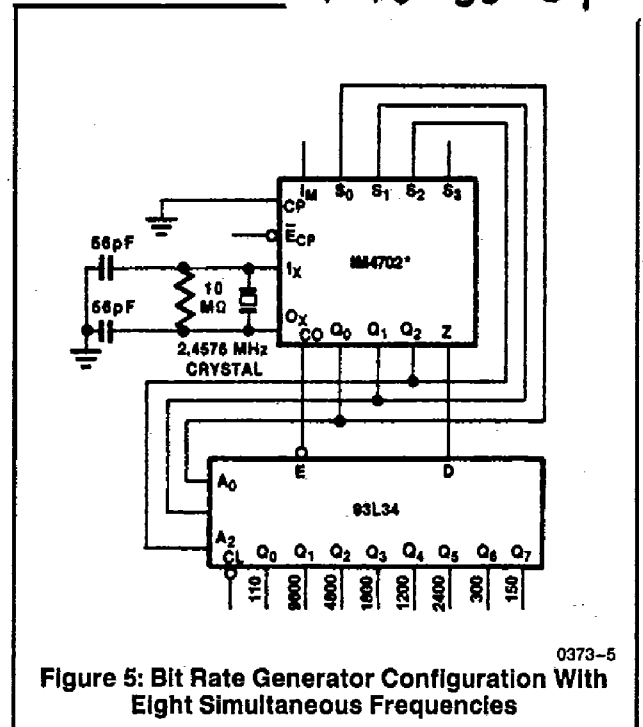

Figure 5: Bit Rate Generator Configuration With Eight Simultaneous Frequencies
Figure 5 shows a simple scheme that generates eight bit rates on eight output lines, using one IM4702/12 and one 93L34 Bit Addressable Latch. This and the following applications take advantage of the built-in scan counter (prescaler) outputs. As shown in the block diagram, these outputs ( $Q_0$  to  $Q_2$ ) go through a complete sequence of eight states for every half-period of the highest output frequency (9600 Baud). Feeding these Scan Counter Outputs back to the Select inputs of the multiplexer causes the IM4702/12 to sequentially interrogate the state of eight different frequency signals. The 93L34 Bit Addressable Latch, addressed by the same Scan Counter Outputs, reconverts the multiplexed single Output (Z) into eight parallel output frequency signals. In the simple scheme of Figure 5, input  $S_3$  is left open (HIGH) and the following bit rates are generated: